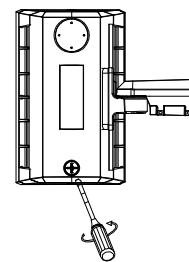

Figure 17
- STEP 1:** Open the metal plug counter clockwise with a screwdriver, then slide the switch up and down to adjust the power controller or CCT controller in your demand (FIGURE 17)